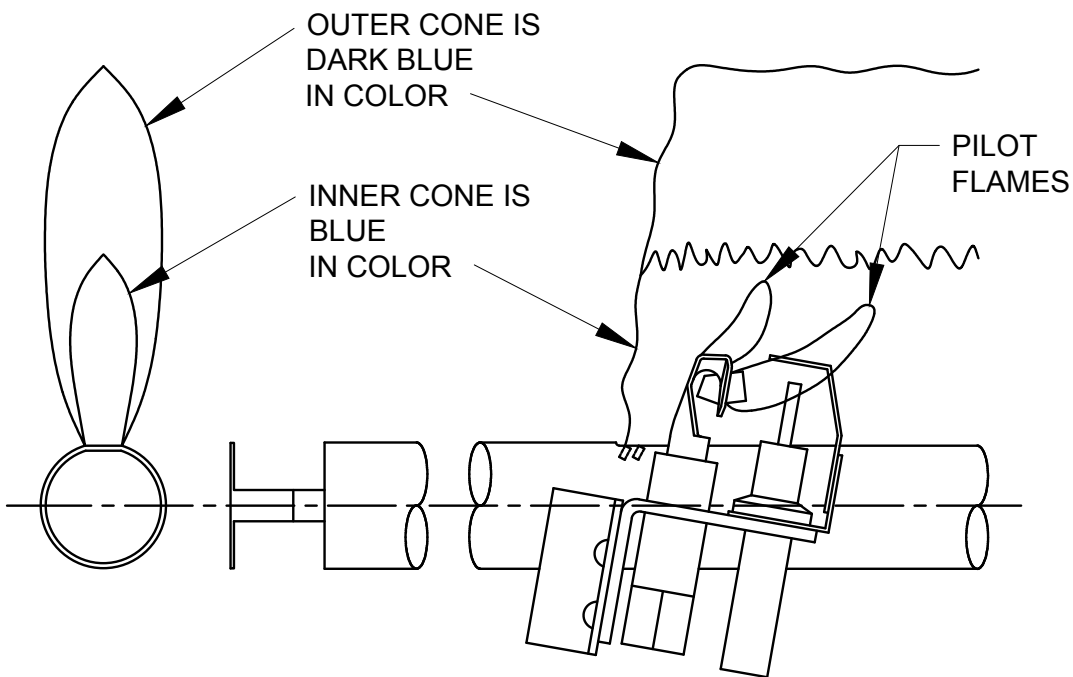

Figure 9.1: Intermittent Pilot and Main Burner Flame
- 3. Check the pilot and main burner flame. See Figure 9.1. The pilot should provide a steady flame enveloping $3/8"$ to $1/2"$ (1 cm to 1.2 cm) of the flame sensor. If required, adjust the pilot as stated in the gas valve manufacturer's instructions. The main burner flame inner cone should be approximately $1-1/2"$ (4 cm) high and should have a very sharp, blue color characteristic. On LP gas models equipped with air shutters, see Section 7 and Figure 7.9 for checking and adjusting air shutters.